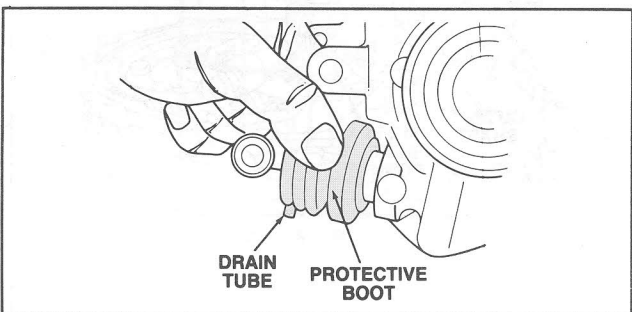

Figure 109 Protective Boot Installation
5. Install the end of the protective boot over the input shift rail seal. (Figure 109).